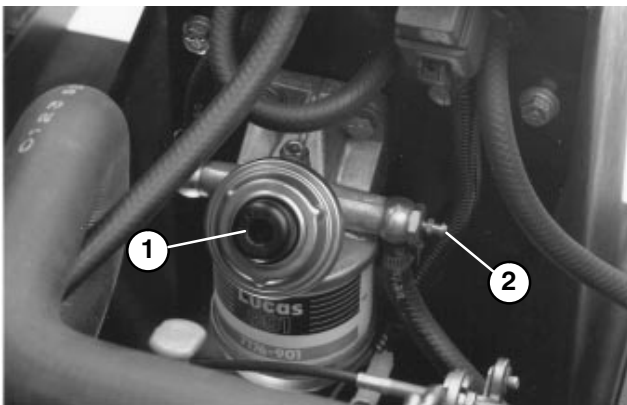

Figure 21
PRIMING FUEL SYSTEM (Fig. 21 & 22)
3. Loosen fuel filter / water separator bleed screw (Fig. 21) a few turns. Pump priming plunger until a steady stream of fuel comes out of hole in bleed screw. When fuel stops foaming, tighten the bleed screw during the downstroke of the priming plunger. Wipe up any spilled fuel.